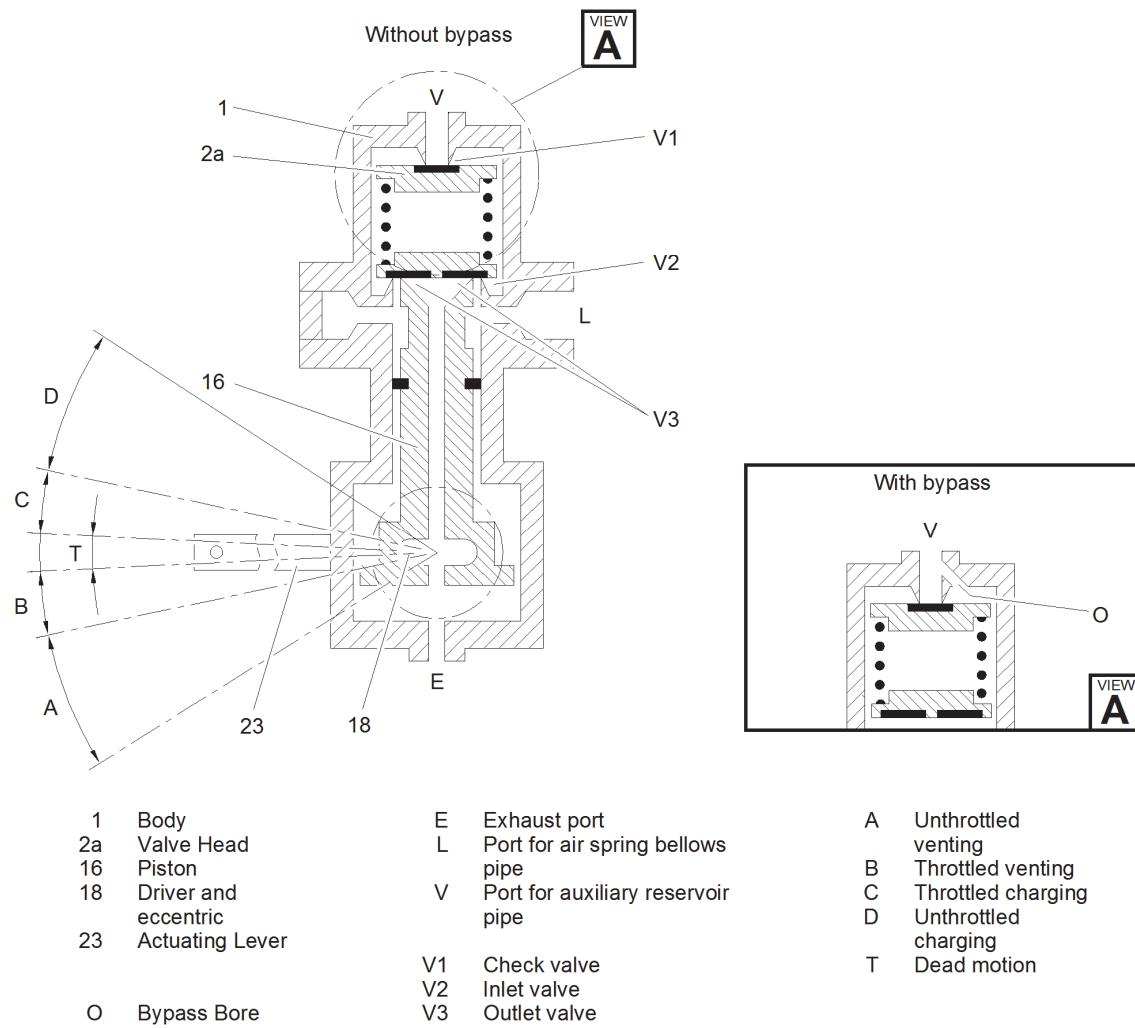

Figure 2-20: Leveling Valve at Lap Position
The valve, see Figure 2-20 has a port (V) at the top for the auxiliary reservoir, and a port (L) at both left and right for connection to the air spring bellows. Opposite the port (V) is the exhaust port (E).
When the vehicle load is increased, see Figure 2-20 the car body first falls as the air spring bellows are compressed by the heavier load. As the bellows are compressed, the driver (18) is turned via the actuating mechanism, causing the eccentric to move the piston (16) upward and open the inlet valve (V2). The compressed air (V) coming from the auxiliary reservoir is applied to the upper valve head (2a) and opens the check valve (V1). In the throttled version of the leveling valve, the passage of the compressed air (V) is throttled by the fine clearance between the piston neck and housing bore before it reaches (L) and the air spring bellows.